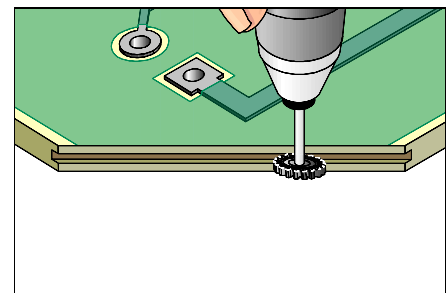

Figure 2: Cut a groove into the edge of the PC board.
4. Install a carbide saw into the Micro-Drill System. Set the speed to maximum and machine a groove in the edge of the PC board where the new base material will be installed. The groove must be centered in the edge to ensure that the new piece will fit properly. The groove width should be approximately 1/3 of the PC board thickness. The groove depth should be approximately double the groove width. (See Figure 2).